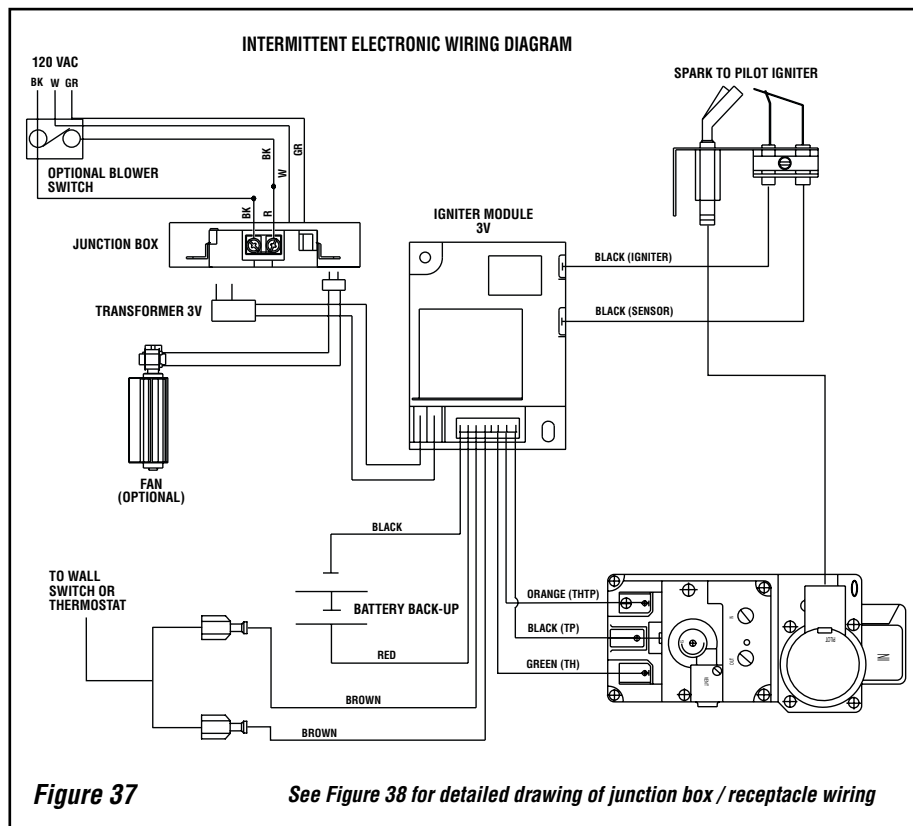

Figure 37
B. Electronic Wiring (See *Figure 37*) –
4. Connect the black power supply wire to the **lower outlet's** red pigtail lead and the white power supply wire to the **common** terminal of the outlet as shown in *Figures 37 & 38*.
8. If an optional control is to be used, wire it in the low voltage circuit as shown in **Figure 37**.